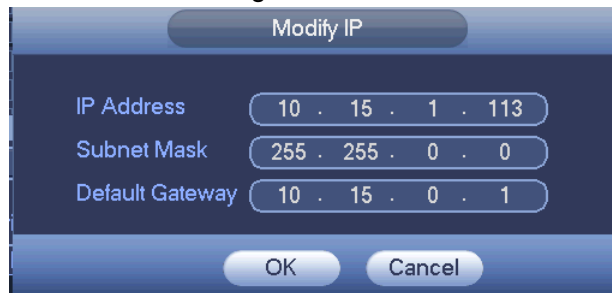

Figure 2-20
- ✧ Click , you can change the information such as IP address, subnet mask, default gateway of the checked device. See Figure 2-20.